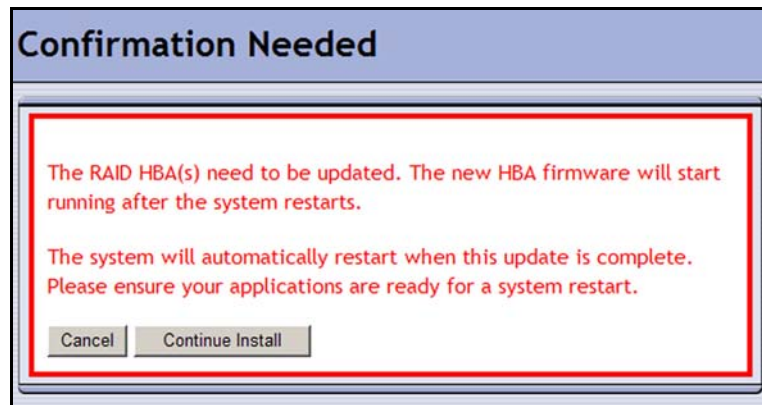

Figure 23 Confirmation message to update the HBA.
- If the firmware package includes updates to the firmware for the Adaptec RAID controller HBA, the blades, or the root expanders, a Confirmation Needed page similar to the one shown in Figure 23 displays.